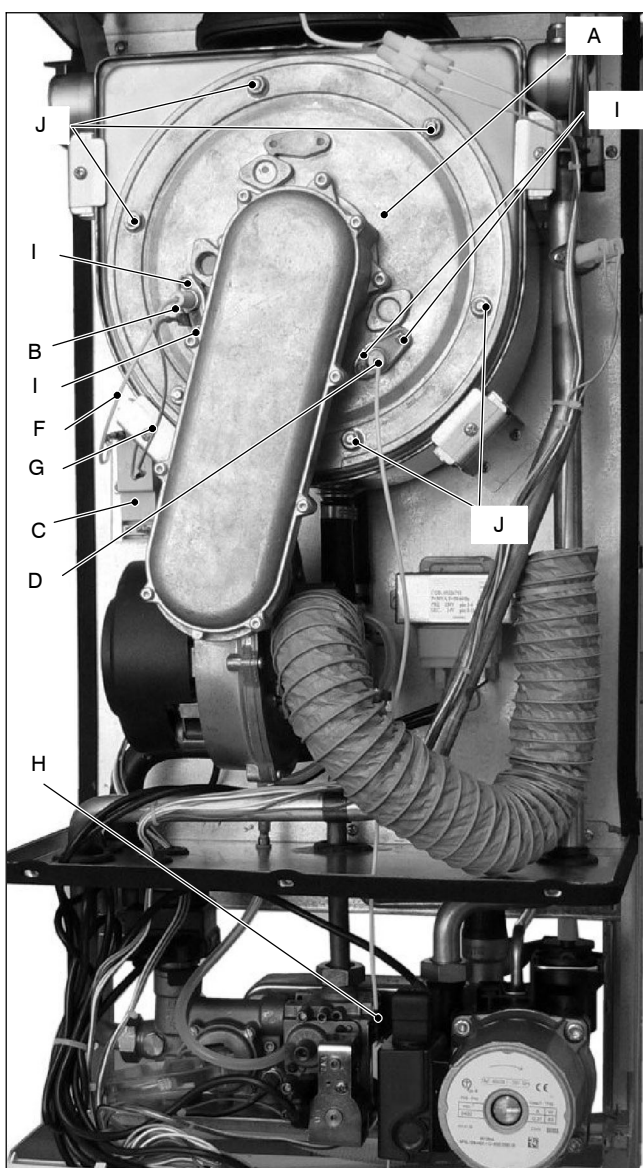

Fig. 18.1
- 2 Disconnect the ignition electrodes connector *F* and the earth wire *G* from the spark generator (Fig. 18.1) and disconnect the detection electrode connector *H*.
- 3 Unscrew the screws *I* and remove the ignition electrodes *B* and the detection electrode *D* (Fig. 18.1).
- 3 Unscrew the nuts *J* (Fig. 18.1) and remove the cover of the combustion chamber.
- 3 Unscrew the nuts *K* (Fig. 18.1) and remove the cover of the combustion chamber.